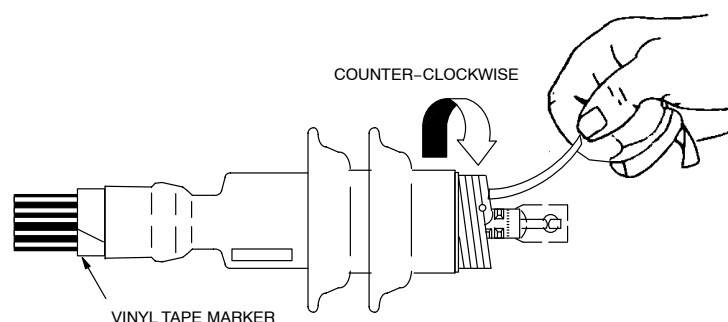

FIGURE 6
10. Re-position the terminator body on the cable and remove the core. Make sure the terminator body (not the core) is butted up to the edge of the vinyl marker tape. While removing the core, unwind it in a counter-clockwise direction. See Figure 6.